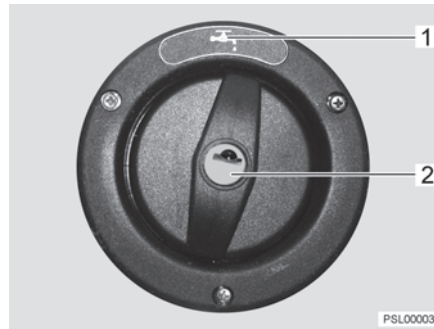

Fig. 165 Cap for the drinking water filler neck
The drinking water filler neck is indicated by the symbol "🔑" (Fig. 165,1). The cap is open and closed using the key for the external flap locks.
- Insert key into locking cylinder (Fig. 165,2) and turn a quarter turn in an anticlockwise direction.